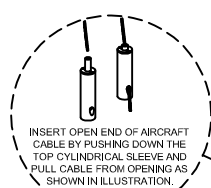
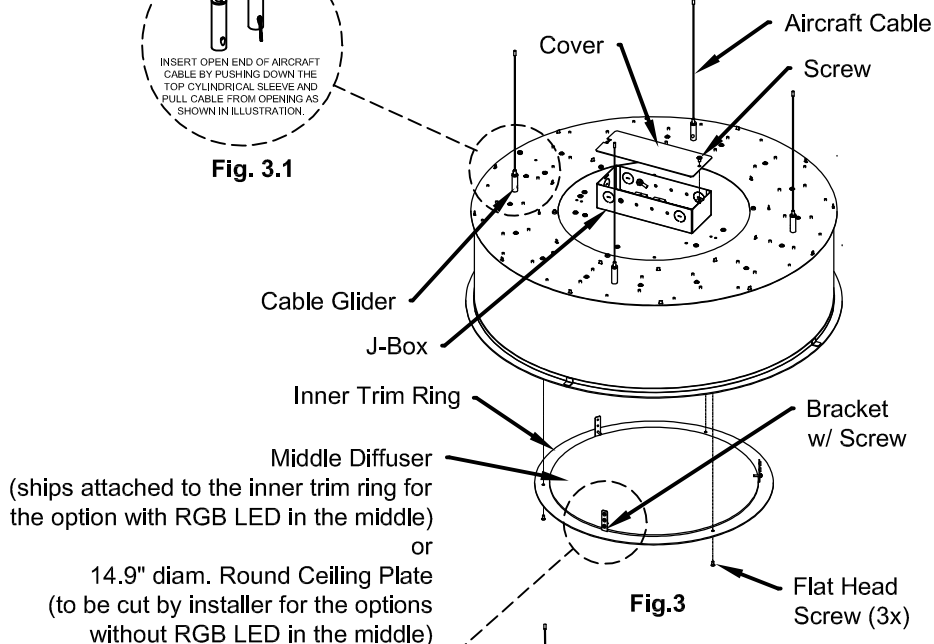
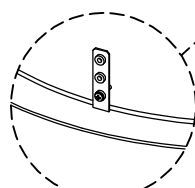

Fig. 3.1
Fig.3
Fig. 3.2
- Remove the inner trim ring. Fig.3
- Remove the screws located on brackets of the inner trim ring, place the round ceiling plate between three brackets on the inner trim ring and secure it with screws using proper pem nut located on the bracket depends on the thickness of the ceiling plate. Fig.3 and Fig. 3.2
3. Insert loose ends of four aircraft cables (previously attached to the ceiling sub-structure, step 2) into the cable gliders located on the top surface of the fixture. Fig.3 and Fig. 3.1
4. Lift the fixture using cable gliders. To release the grip lock, press down on the top of the mechanism. If desired, clip the excess aircraft cables after the fixture is level. Fig. 3.1
5. Remove the cover from the j-box, remove appropriate round knock-out(s) on the j-box and connect flexible conduit to the j-box making proper electrical connections. Re-install the cover. Fig.3
8. Insert loose ends of aircraft cables (previously attached to the ceiling sub-structure, step 2) into the cable gliders located on the top surface of the fixture. Fig.3 and Fig. 3.1
9. Remove the cover from the j-box, remove appropriate round knock-out(s) on the j-box and connect flexible conduit to the j-box making proper electrical connections. Re-install the cover. Fig.3